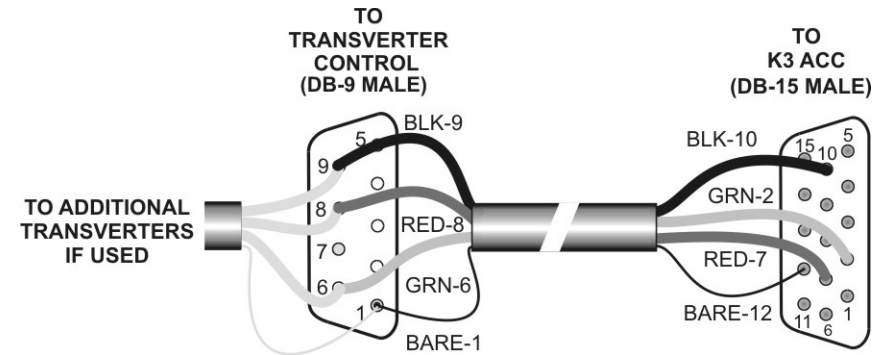

Figure 7. K3 Control Cable Wiring.
- If you are integrating two or more transverters into the station at this time, cut a length of cable to reach from the first transverter to the next transverter in a daisy-chain arrangement (see Figure 7).
- Solder the wires to the connectors as shown in Figure 7.